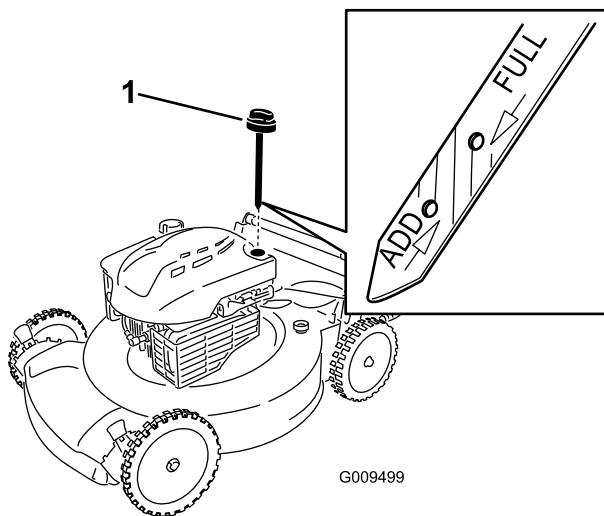

Figure 10
2. Remove the dipstick (Figure 10).
5. Remove the dipstick and read the oil level on the dipstick; refer to Figure 10.